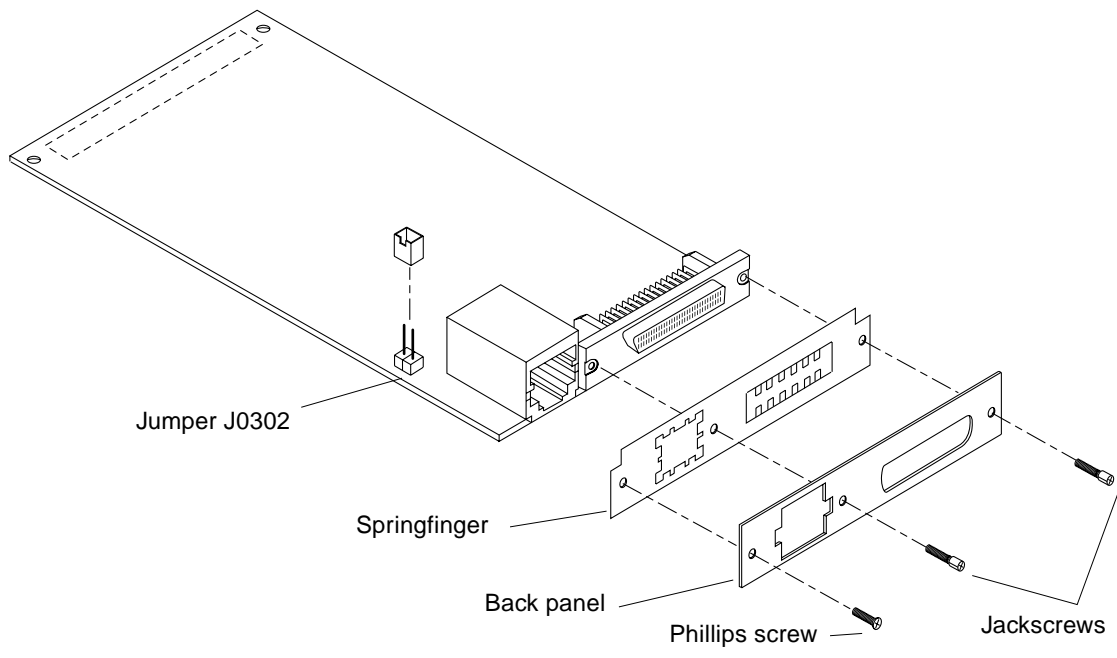

FIGURE 4-18 DSBE/S SBus Card
2. **For DSBE/S and FSBE/S cards: remove the two outer retaining screws (FIGURE 4-18), but do NOT remove the middle screw or the springfinger.**
3. **For DSBE/S and FSBE/S cards, configure jumper J0302 for Link Integrity Test functionality. See FIGURE 4-18 (DSBE/S) or FIGURE 4-19 (FSBE/S).**